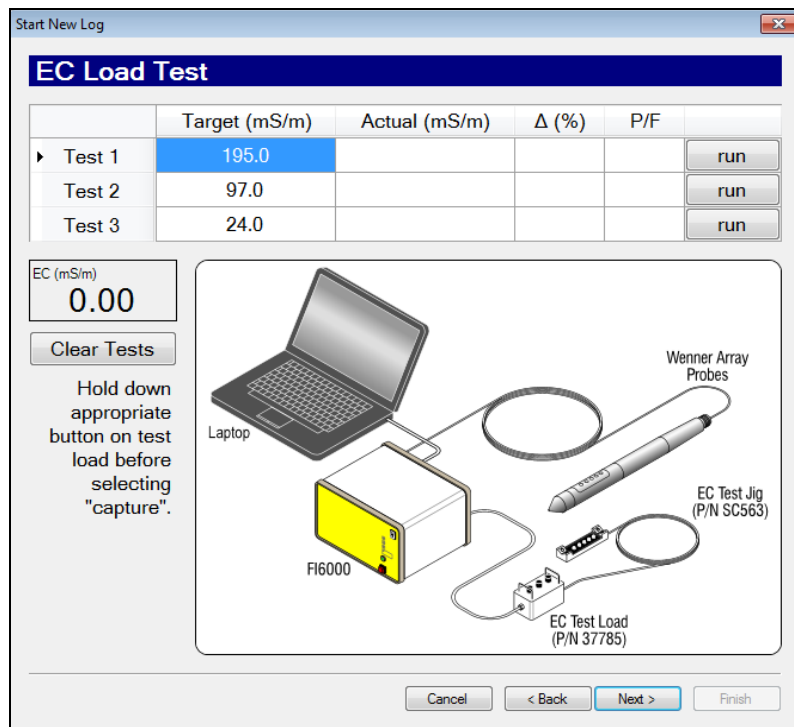

Figure 5.4: EC Load Test Screen
4. Place the EC Test Jig (214237) so that the four springs on the test jig touch the four dipoles of the Wenner EC array (Fig. 5.4). Make sure the trunkline and test jig wires go in the same direction. The other spring on the test jig will ground the probe body above the Wenner array. Make sure the springs are pulled out far enough to make a solid contact on the dipoles.
5. When you get to the EC Load Test Screen and the EC test load and test jig are in place on the probe press down on the test 1 button on the test load and select "run" of Test 1 (Fig. 5.4). After 5 seconds have passed, the displayed value will be acquired, and it will pass if it is within 15% of the target value. Continue with Test 2 and 3.